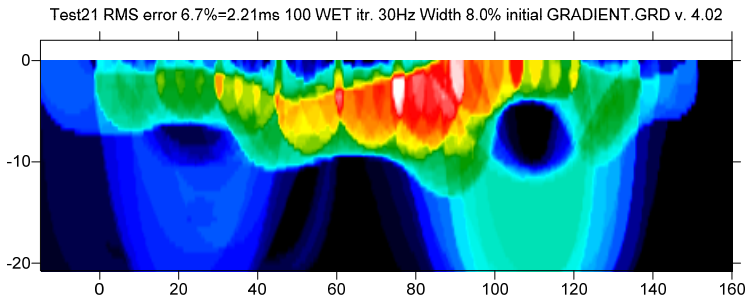

Fig. 9 : WET wavepath coverage plot obtained with Fig. 8. Unit is wavepaths per pixel.
- click button **Start tomography processing** to obtain WET output shown in Fig. 8 and Fig. 9